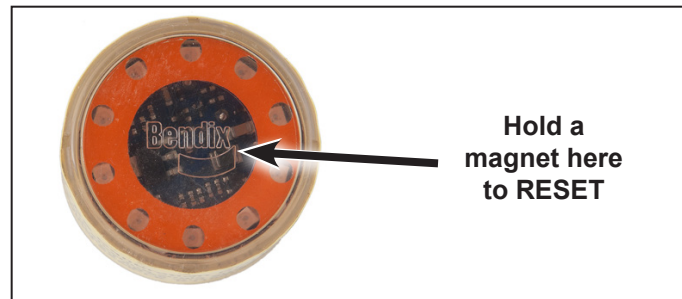

Figure 3–Reset Switch
4. When finished with the testing that required the ABS ECU to be in dynamometer mode, hold a magnet to the reset area of the RDU as shown in Figure 3 to take the ECU out of the dynamometer mode.